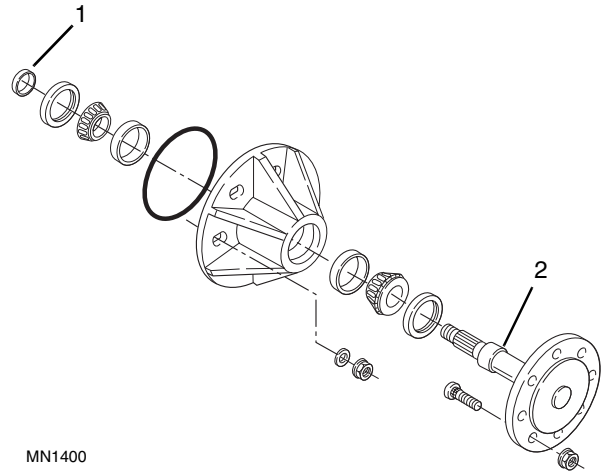

Figure 6-19 Axle Assembly - Exploded View
1. Pull the spacer (Fig. 6-19, 1) off the end of the axle (2) and save the spacer.